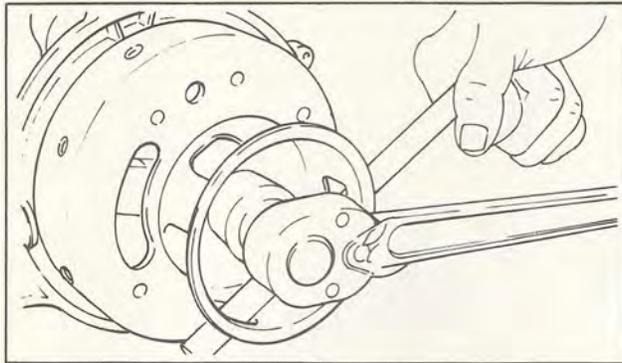

Fig. 2-18
- (2) With the starter assembly removed you will now be able to remove the magneto assembly. The first step in this procedure is to remove the flywheel securing nut with a socket wrench 1.02 ins. (26 mm.). (In this case, to loosen or tighten the flywheel, a "bar" should be inserted into the hole in the pulley. The flywheel can be locked.) (Fig. 2-18)